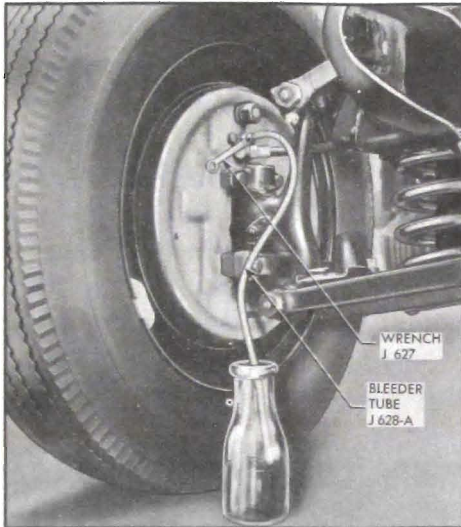

Figure 9-6—Bleeding Wheel Cylinder
2. Remove screw and attach Brake Bleeder Tube J 628-A to wheel cylinder bleeder valve. Place lower end of bleeder tube in a clean glass jar. Unscrew bleeder valve $\frac{3}{4}$ of a turn, using Bleeder Wrench J 627. See figure 9-6.
3. Remove screw and attach Brake Bleeder Tube J-628-A to wheel cylinder bleeder valve. Place lower end of bleeder tube in a clean glass jar. Unscrew bleeder valve $\frac{3}{4}$ of a turn, using Bleeder Wrench J 627. See figure 9-6.